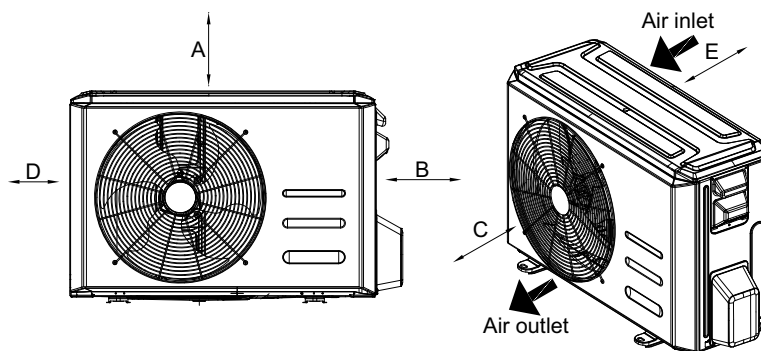

Fig. 7 — Clearances
- A location which provides appropriate clearances (See Fig. 7 — on page 16).
- Allow sufficient space for airflow and service of the unit. See Fig. 7 — on page 16 for the required minimum distances between the unit or walls.